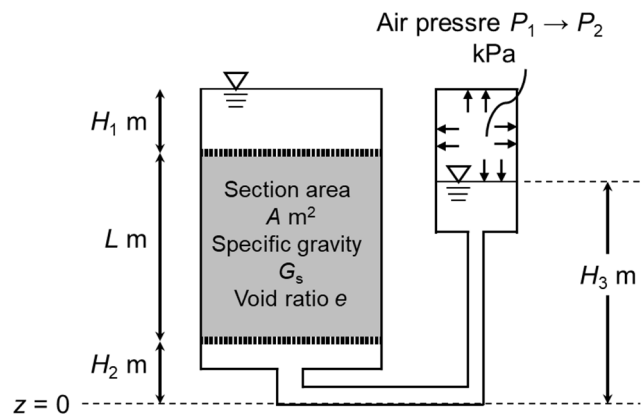

Figure 4
(5) Next, as shown in Figure 4, the right-side container is covered with maintaining the water level, and an air pressure P_1 [kPa = kN/m²] is applied. The applied air pressure acts isotropically as an increment in the water pressure in the right-side container. Define the air pressure P_1 [kPa] that should be applied not to cause seepage in the soil specimen.
(6) When the air pressure is further increased to P_2 [kPa] from (5), show the condition of P_2 in order for the specimen to avoid quicksand.